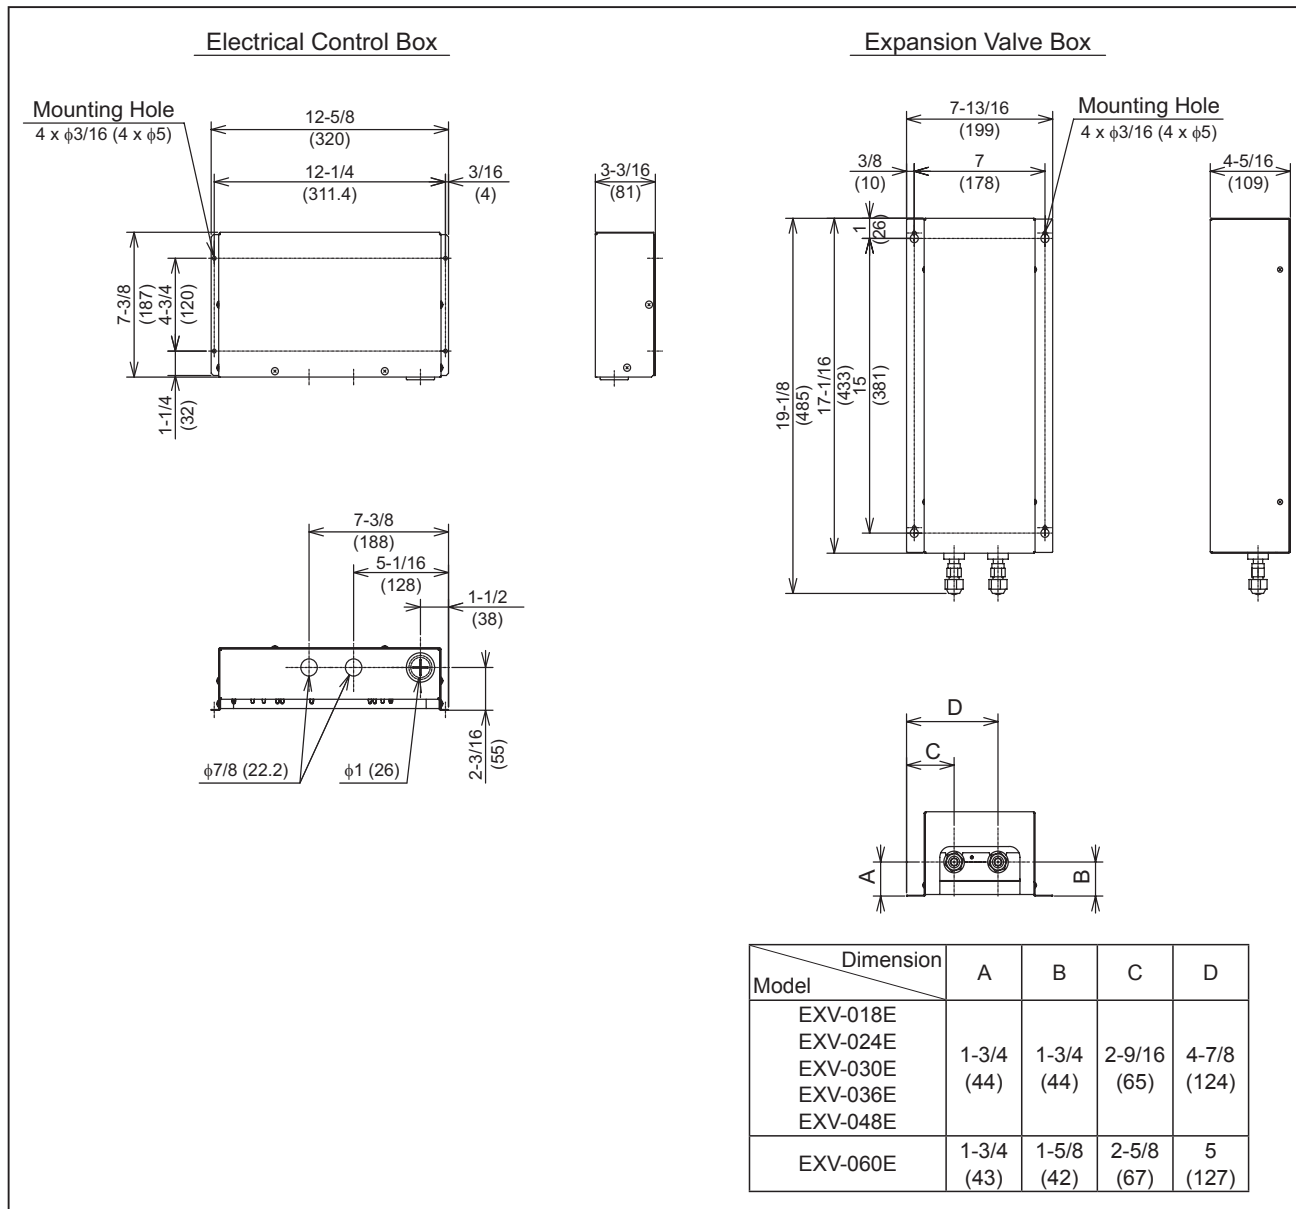

Figure 16. Installation Dimensions
- Refer to figure 16 for the dimensions of mounting holes.